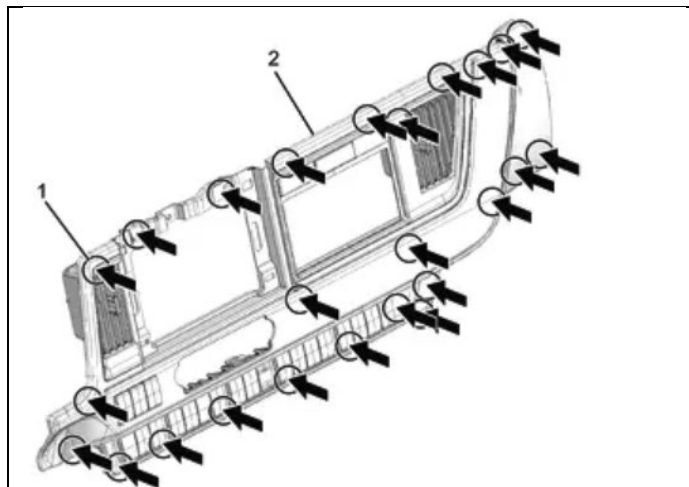

Figure 34
40. Install the center cluster. (See Figure 34.) Ensure that all clips are lined up properly before pushing the center cluster in place. Ensure that all clips engage properly.